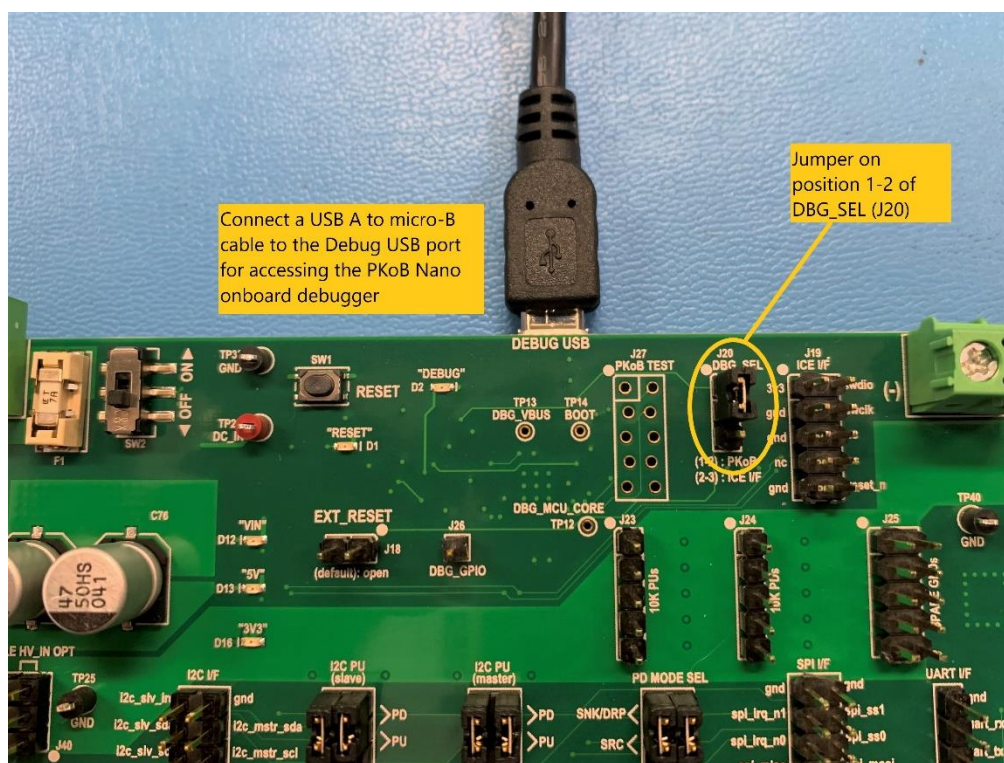

Figure 5.4 Programming using On-board debugger
- Connect a USB Micro-B cable to “DEBUG USB” which on the top of the board as shown in the figure 5.4 and connect the other end USB Type-A to the laptop for using the on-board debugger for programming